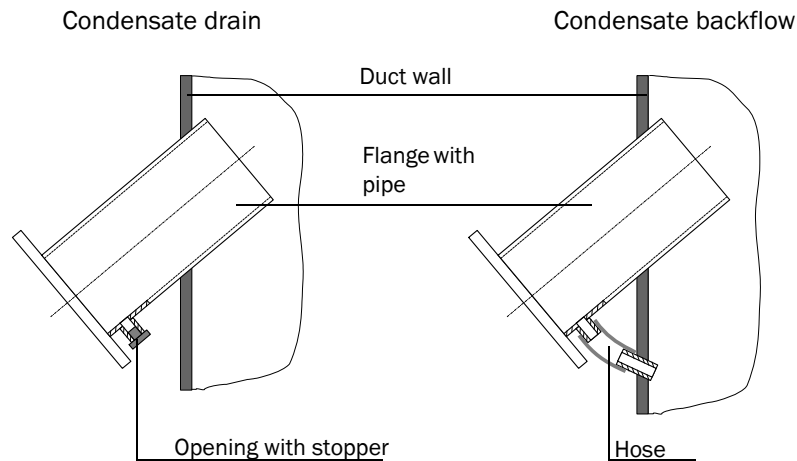

Fig. 3.5: Condensate drain / backflow
- Continuous or periodical condensate drain through an opening (if necessary closeable) at the deepest point of the flange pipe (e.g. hole  $\varnothing$  4 mm with stopper, see Fig. 3.5) (only usable if the condensate is not damaging the installation and environment)
- Backflow of the condensate to the duct through a hose connection between flange pipe and duct (see Fig. 3.5).
$L_d$  as in **Fig. 3.5**